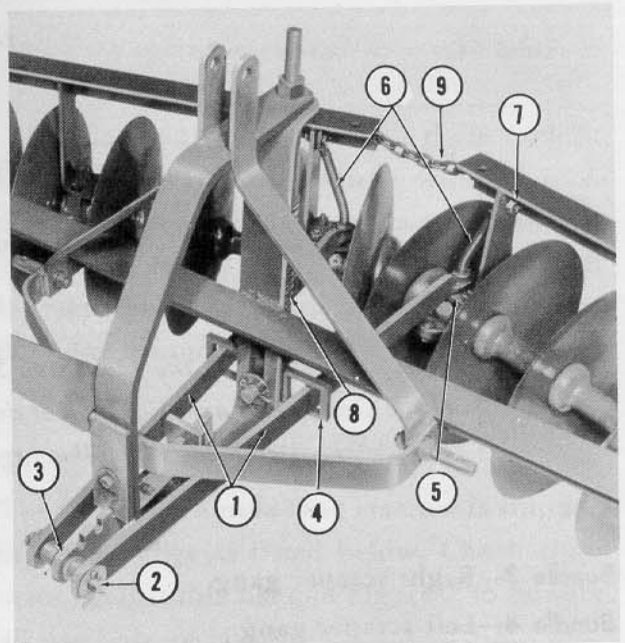

Figure 5
6. Attach left and right center draw bars (1), Figure 5, as follows:
- b. Remove pin (2) from forward end of draw bar rack (3).
- c. Place center draw bars in position by sliding forged end of bar through center draw bar guides (4) and back to disc gang end bearing assembly (5). Be sure forging on rear end of center draw bars is down, as shown.
- d. Insert leg braces (6) and secure upper end with bolt, lock washer and nut (7) as shown in Figure 5.
7. Connect inner ends of gangs together by bolting free end of disc gang connecting chain (9) to angle frame of right hand gang as shown in Figure 5.